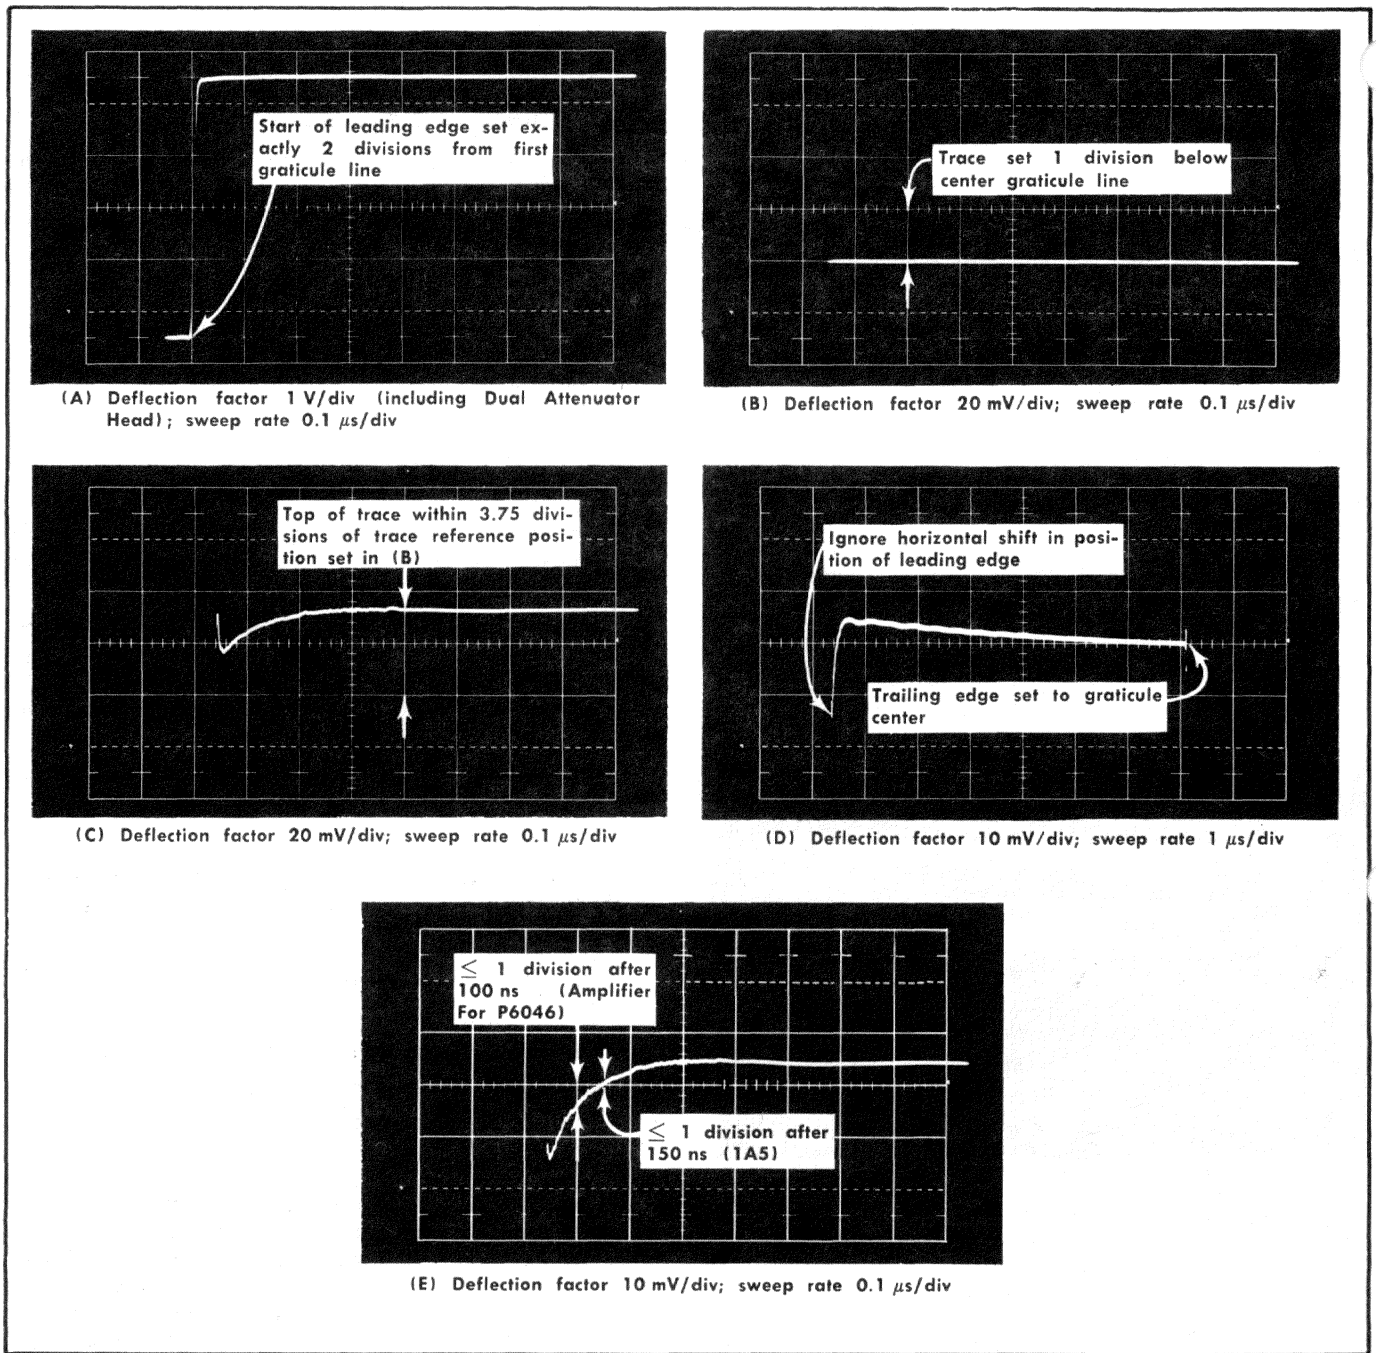

Fig. 5-3. DC shift and overdrive recovery waveforms, step 6.
- GR 2 $\times$  attenuator (item 16)
- GR 90° elbow (item 10) (optional)
- 5 ns GR cable (item 9)
- GR-to-BNC 50  $\Omega$  termination (item 5)
h. Adjust the Square Wave Generator AMPLITUDE control to provide a 5 division square wave. Adjust the Oscilloscope TRIGGERING LEVEL as necessary to obtain a stable display. Using the horizontal position controls, set the leading edge of the square wave to start exactly 2 divisions from the first vertical graticule line as shown in Fig. 5-3(A). Do not move the horizontal position or triggering controls for the remainder of this step.
m. CHECK—DC shift due to overdrive. Connect the + Input tip to the Probe tip-to-GR adapter and associated equipment. (A special Ground tip should remain connected to the - Input tip.) Check the position of the top of the square wave 1 second after making the connection. 3.75 divisions or less trace shift should occur, for a trace shift of 1.5% or less of input signal. See Fig. 5-3 (B) and (C).
n. Switch to 10 mV vertical deflection factor. Switch the Time/Div control to 1  $\mu$ s. Using the vertical POSITION control, set the trailing edge of the top of the square wave to the vertical center of the graticule as in Fig. 5-3 (D).
o. (P6046 Probe/Type 1A5 only) CHECK—Over-drive recovery time. Switch the Time/Div Control back to .1  $\mu$ s and check the vertical separation between the trace and the graticule vertical center 5 divisions from the first vertical graticule line (300 ns after start of step function as shown in Fig. 5-3 E). At that point the trace should be within 1 division of graticule vertical center, and stay within for the remainder of the positive excursion of the square wave.
and graticule center 3 divisions from the first vertical graticule line (100 ns after start of step function). At that point the trace should be within 1 division of graticule vertical center, and stay within for the remainder of the positive excursion of the square wave. See Fig. 5-3 (E).